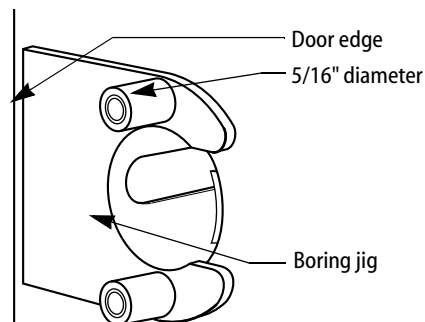

Figure 3—Installing the boring jig
- 4 Install the boring jig (KD303) into the door. Make sure the front edge of the jig is parallel with the door edge (see Figure 3).